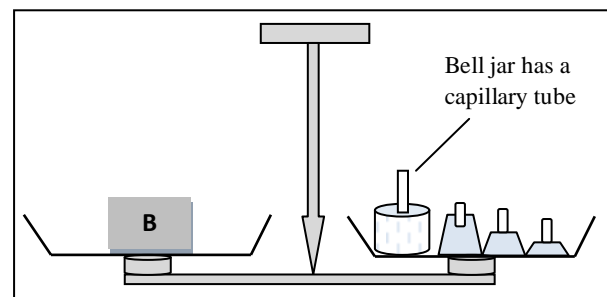

Figure 4.1
a. The first weighing (Figure 4.1)